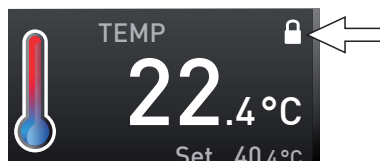

Fig. 33 Temperature adjustment at appliance locked (example)
- 1 If adjustment options are locked, this is indicated by the lock symbol in the respective display (Fig. 33).
4. Remove the USB storage medium. Locked parameters are indicated by the lock symbol in the respective display (Fig. 33).